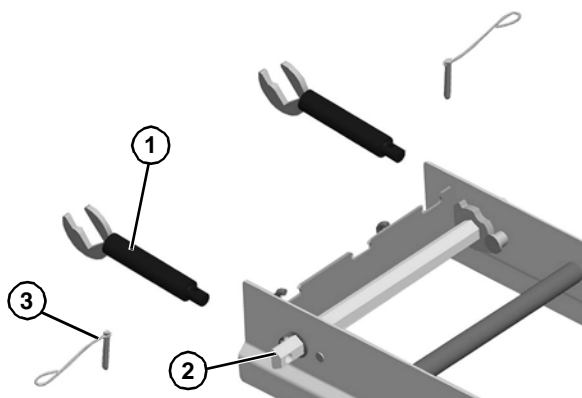

Figure 22
2. Attach nose bar idler shaft hands (Figure 22, item 1) to the tip up shaft (Figure 22, item 2) with a pull pin (Figure 22, item 3).